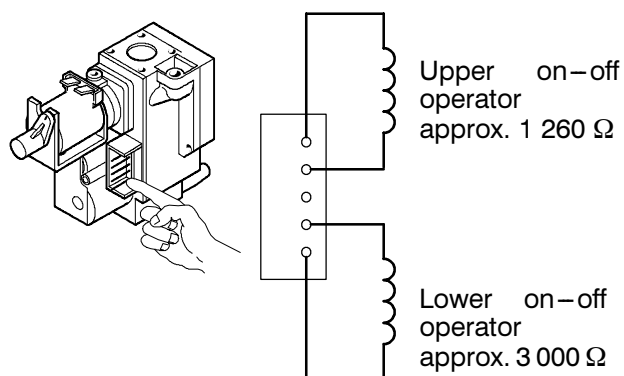

fig. 55
- 3 Measure the electrical resistance between the leads of the on-off operators as illustrated in fig. 55.